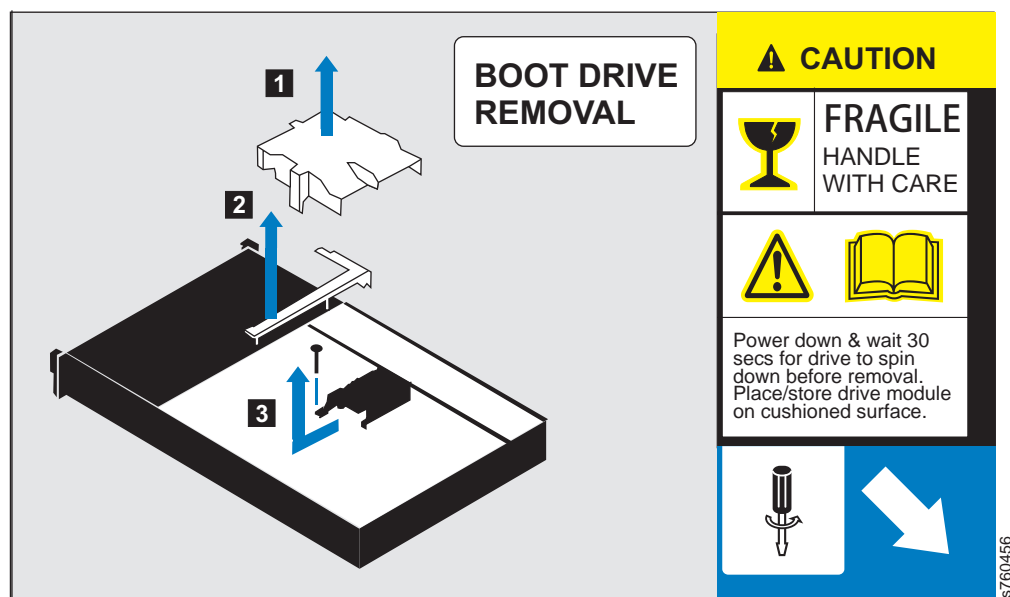

Figure 37. Boot cage caution label
5. Refer to Figure 37. You can identify the boot drive cage by the Boot Drive Removal caution label. The label shows the plastic covers **1**, the air baffle, and the L-shaped cover **2**. Remove both plastic covers.